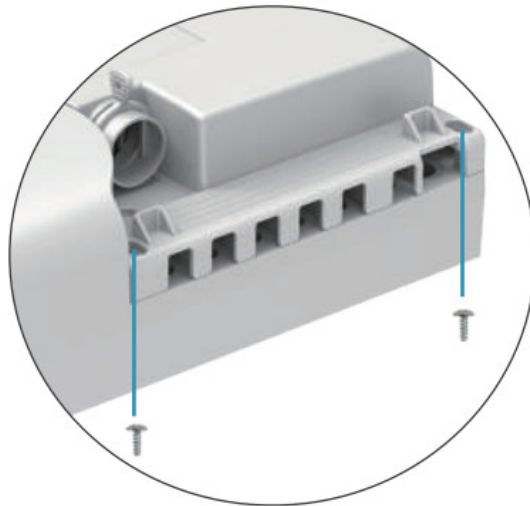

Fig.2
**Install:** Put the anti-pull cover on the control box, and then lock the corresponding screw according to the screw hole position. (Fig.2)